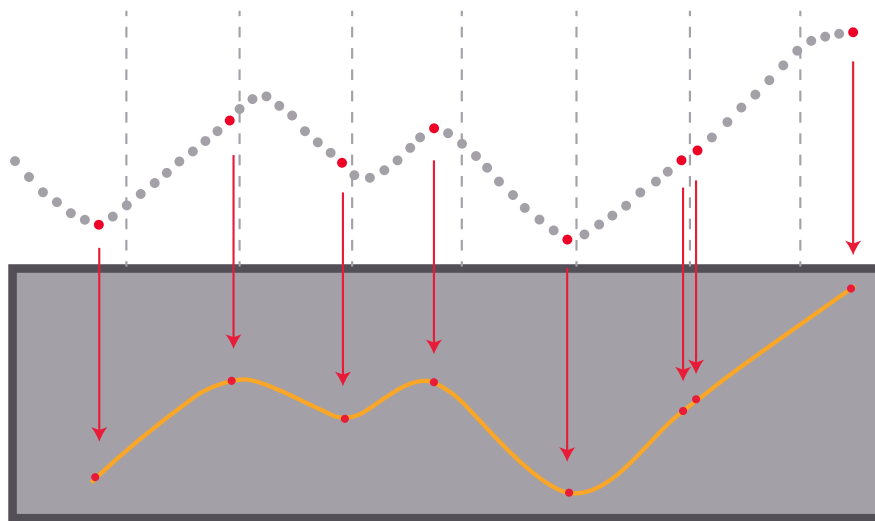

Figure 11. Peak detect mode takes the highest and lowest values in alternating order
4. Peak detect mode: This mode takes the highest voltage sample value from a given interval and the lowest from the next, in alternating succession; see Figure 11. This helps you to see the extreme high and low values in your signal and catch any spikes or glitches that might otherwise be lost in the data compression process.